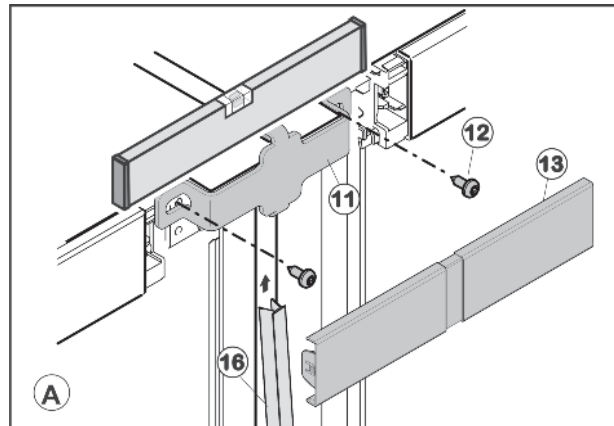

Fig. 44
- ▶ Secure upperconnecting element Fig. 44 (11) using two screws Fig. 44 (12). Make preliminary holes (optional) or use a cordless screwdriver.
- ▶ Clip on cover panel Fig. 44 (13).
- ▶ Fit strip Fig. 44 (16), push it slightly under the top cover Fig. 44 (13) and then press it downwards into the gap.